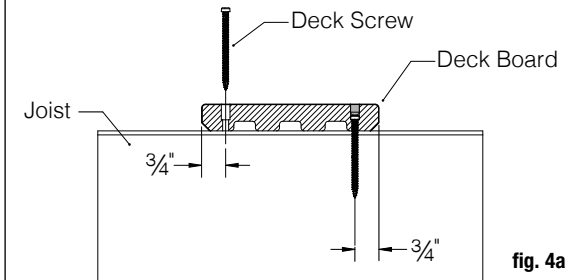

fig. 4a
C) Board End Fastening: For any decking where two boards meet end-to-end over a joist, you must add additional blocking (fig. 4a). It is required that screws be placed 3/4" from both edges to ensure screws are in the thickest lobed area. Screws must also be placed at least 3/4" from the ends of the deck boards. Be careful to not to over-tighten screws near board ends.